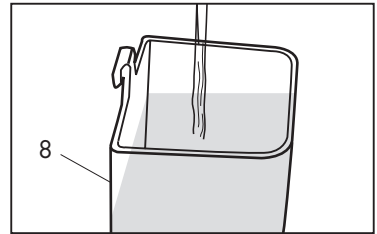

Fig. 2
- Fill the tank to the maximum level (1.8 l). (Fig.2)